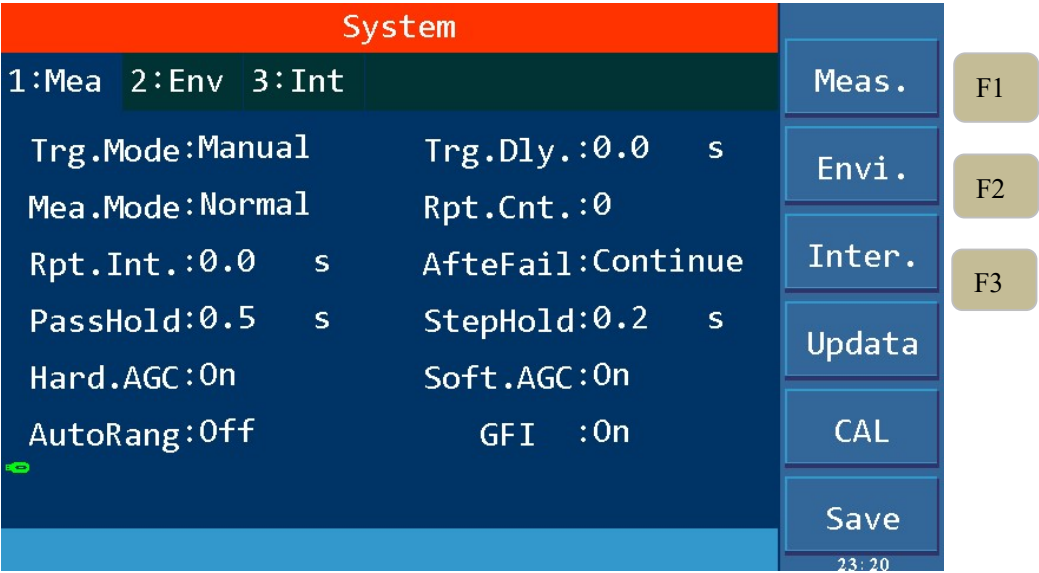

Figure 4-2 SYSTM Test Parameter Settings
- 1. Press [SYSTEM] key to enter the system setting interface shown in Figure 4-2.
Test related parameters setting in SYSTEM are shown in Figure 4-2:
1. Press **[SYSTEM]** to enter the system setting interface shown in Figure 4-2.
1. Press `[[SYSTEM]]` to enter the system setting interface shown in Figure 4-2.